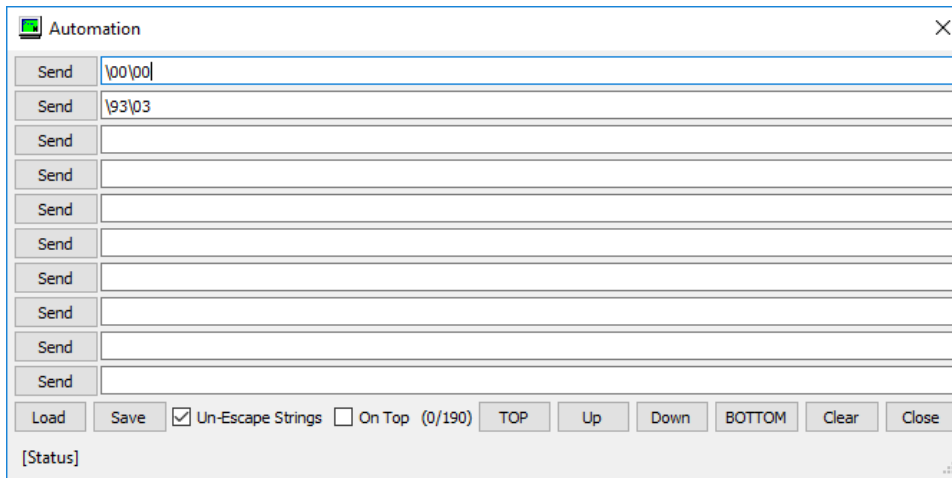

Figure 14: Automation dialogue for entering DTM commands
4. In the following screen, modify the fields as shown in Figure 14.